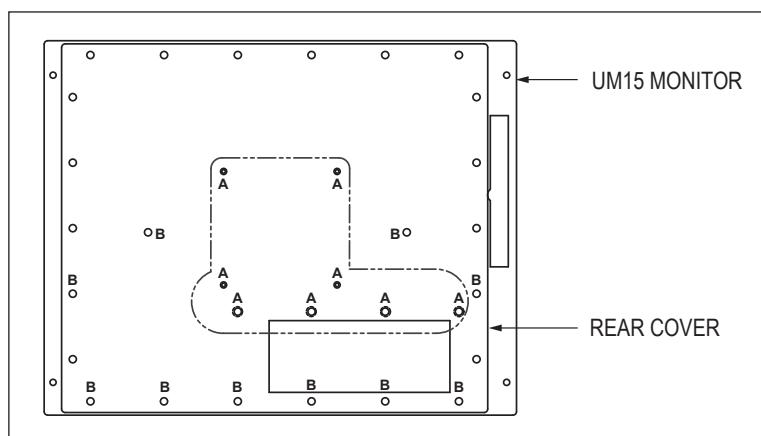

FIGURE 2
3. Prior to installing the fixed pedestal cover plate onto the rear of the monitor, remove and discard the eight screws and washers from the locations marked "A" in Figure 2.
4. Remove and set aside (do not discard) the ten screws and washers from the locations marked "B" in Figure 2.